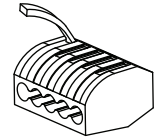
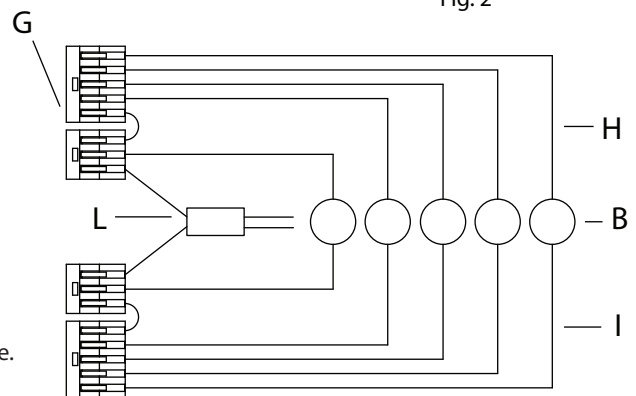

Fig. 2
Fig. 3
1. Shut off power to the outlet box (A).
2. Feed the power cords (B) through the bushings (C) on the canopy (D).
3. Determine the height at which the fixture is to be hung. Use the screwdriver (E) to loosen the set screw (F). Adjust the cord (B) to the desired length. Tighten the set screws to set.
4. Connect the fixture wires to the lever nuts (G) by pulling up on the lever for an empty slot (Fig. 2), inserting the wire, and pushing the lever back down to lock. The white inner conductor (H) and black outer conductor (I) on each cord (B) must be connected to separate lever nuts, as shown (Fig. 3).
5. Reserve extra cords (B) and lever nuts (G) in canopy (D).
6. Loosen the screws on the safety cable coupling (J) and undo the loop. Pass the safety cable through a hole on the mounting plate (K) and insert the end back through the coupling to form a loop. Tighten the coupling screws to secure the safety cable.
- a. Connect the transformer's (L) live wire (black) to the live outlet box wire.
- d. Carefully place connections and transformer (L) in outlet box (A).
8. Attach mounting plate (K) to the outlet box (A), secure with outlet box screws (M). Use anchors (N) and wood screws (O) for extra support (included).
9. Attach canopy (D) to mounting plate (K), secure with finials (P).